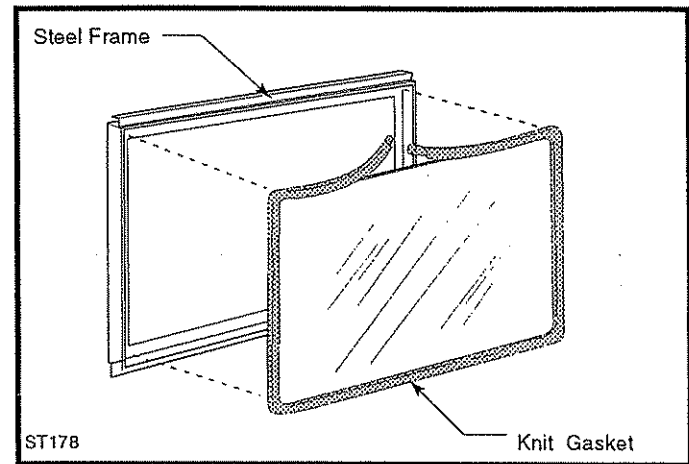

Fig. 48 Remove the glass from the frame.
2. If you are replacing old gasket material, lift the glass panel out of the frame and remove the old gasket material from around the edge. (Fig. 48)